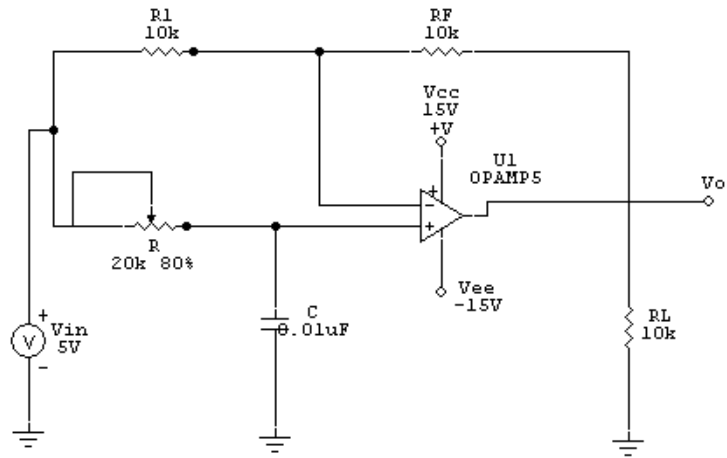

Fig: 5c All Pass Filter
3. For the all pass filter, make the circuit as shown in Fig. 5c. Repeat the experiment as in previous circuits. Measure and plot the phase shift as a function of the frequency.